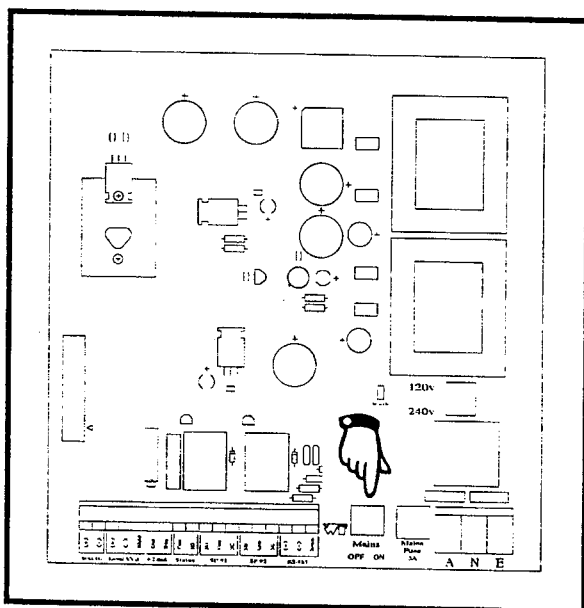

Figure 2-7
- Check that the Mains ON/OFF switch is set to **OFF**. See Figure 2-7 opposite.